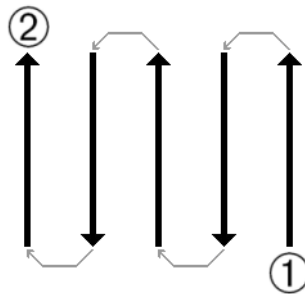

Figure 50: Given manner
Figure 50 shows all different ways of scanning in a scheme. The measurement starts at your starting point ① and ends at point ②.